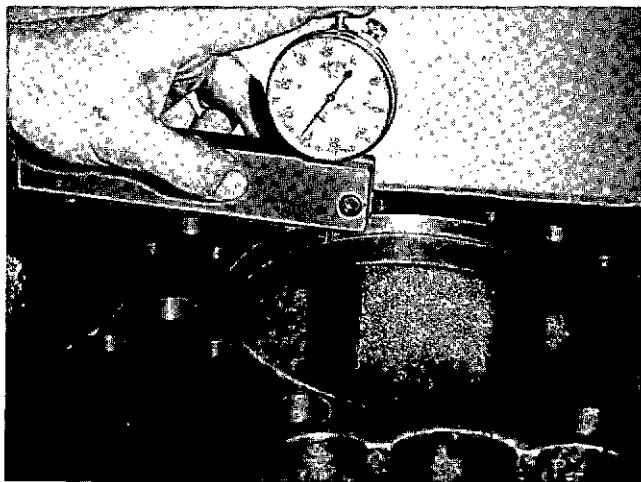

Fig. 1-1-7, V40124. Checking liner counterbore depth in block
b. Measure block counterbore depth with dial indicator depth gauge or ST-547 Gauge Block. Fig. 1-1-7. If ST-547 is used, "zero" indicator before taking measurement.